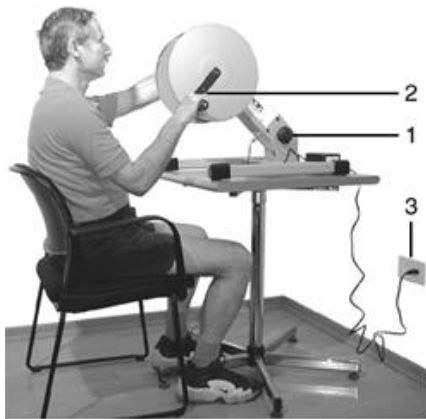

Figure 5
Step 1: Position the **APT-5+** on a level table top close to an electrical socket outlet (Figure 5).